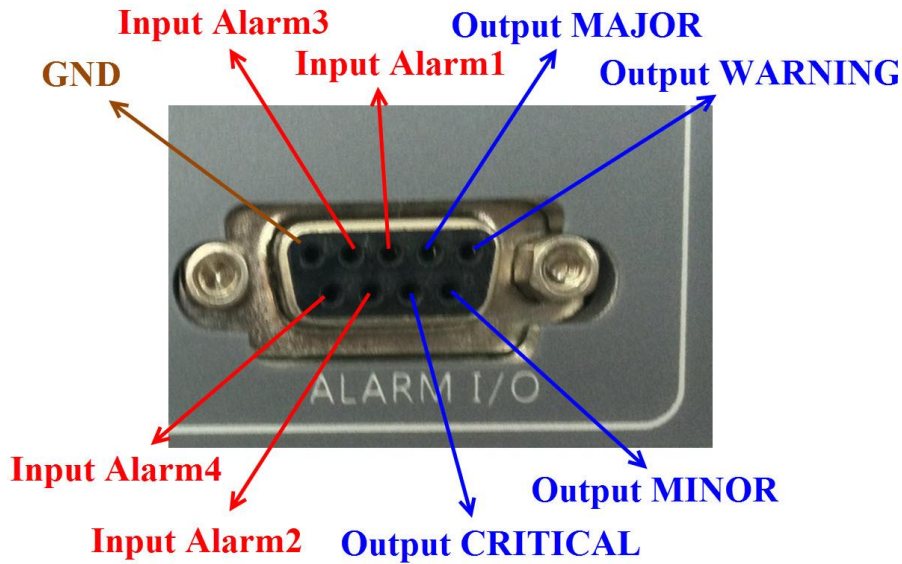

Figure 8-13 External Alarm Level
To save parameters, use the following procedure and refer to Figure 8-13 and Figure 8-14:
2. Click the button to show the parameter ID numbers and checkbox. See #1 in Figure 8-13.
3. Check the parameter that you want to save. See the blue check mark in #2 in Figure 8-13.
4. Click the button to save the configuration. See #3 in Figure 8-13.
5. Click the **Configuration** button transferring to Configuration page. (See #4 in Figure 8-13.) In Figure 8-13, click **Save Configuration** to save configuration as **Engineering_Param** file, **Factory_Param** file or **To Default Settings**. After select file, use **Download** button to save the file to a local PC.